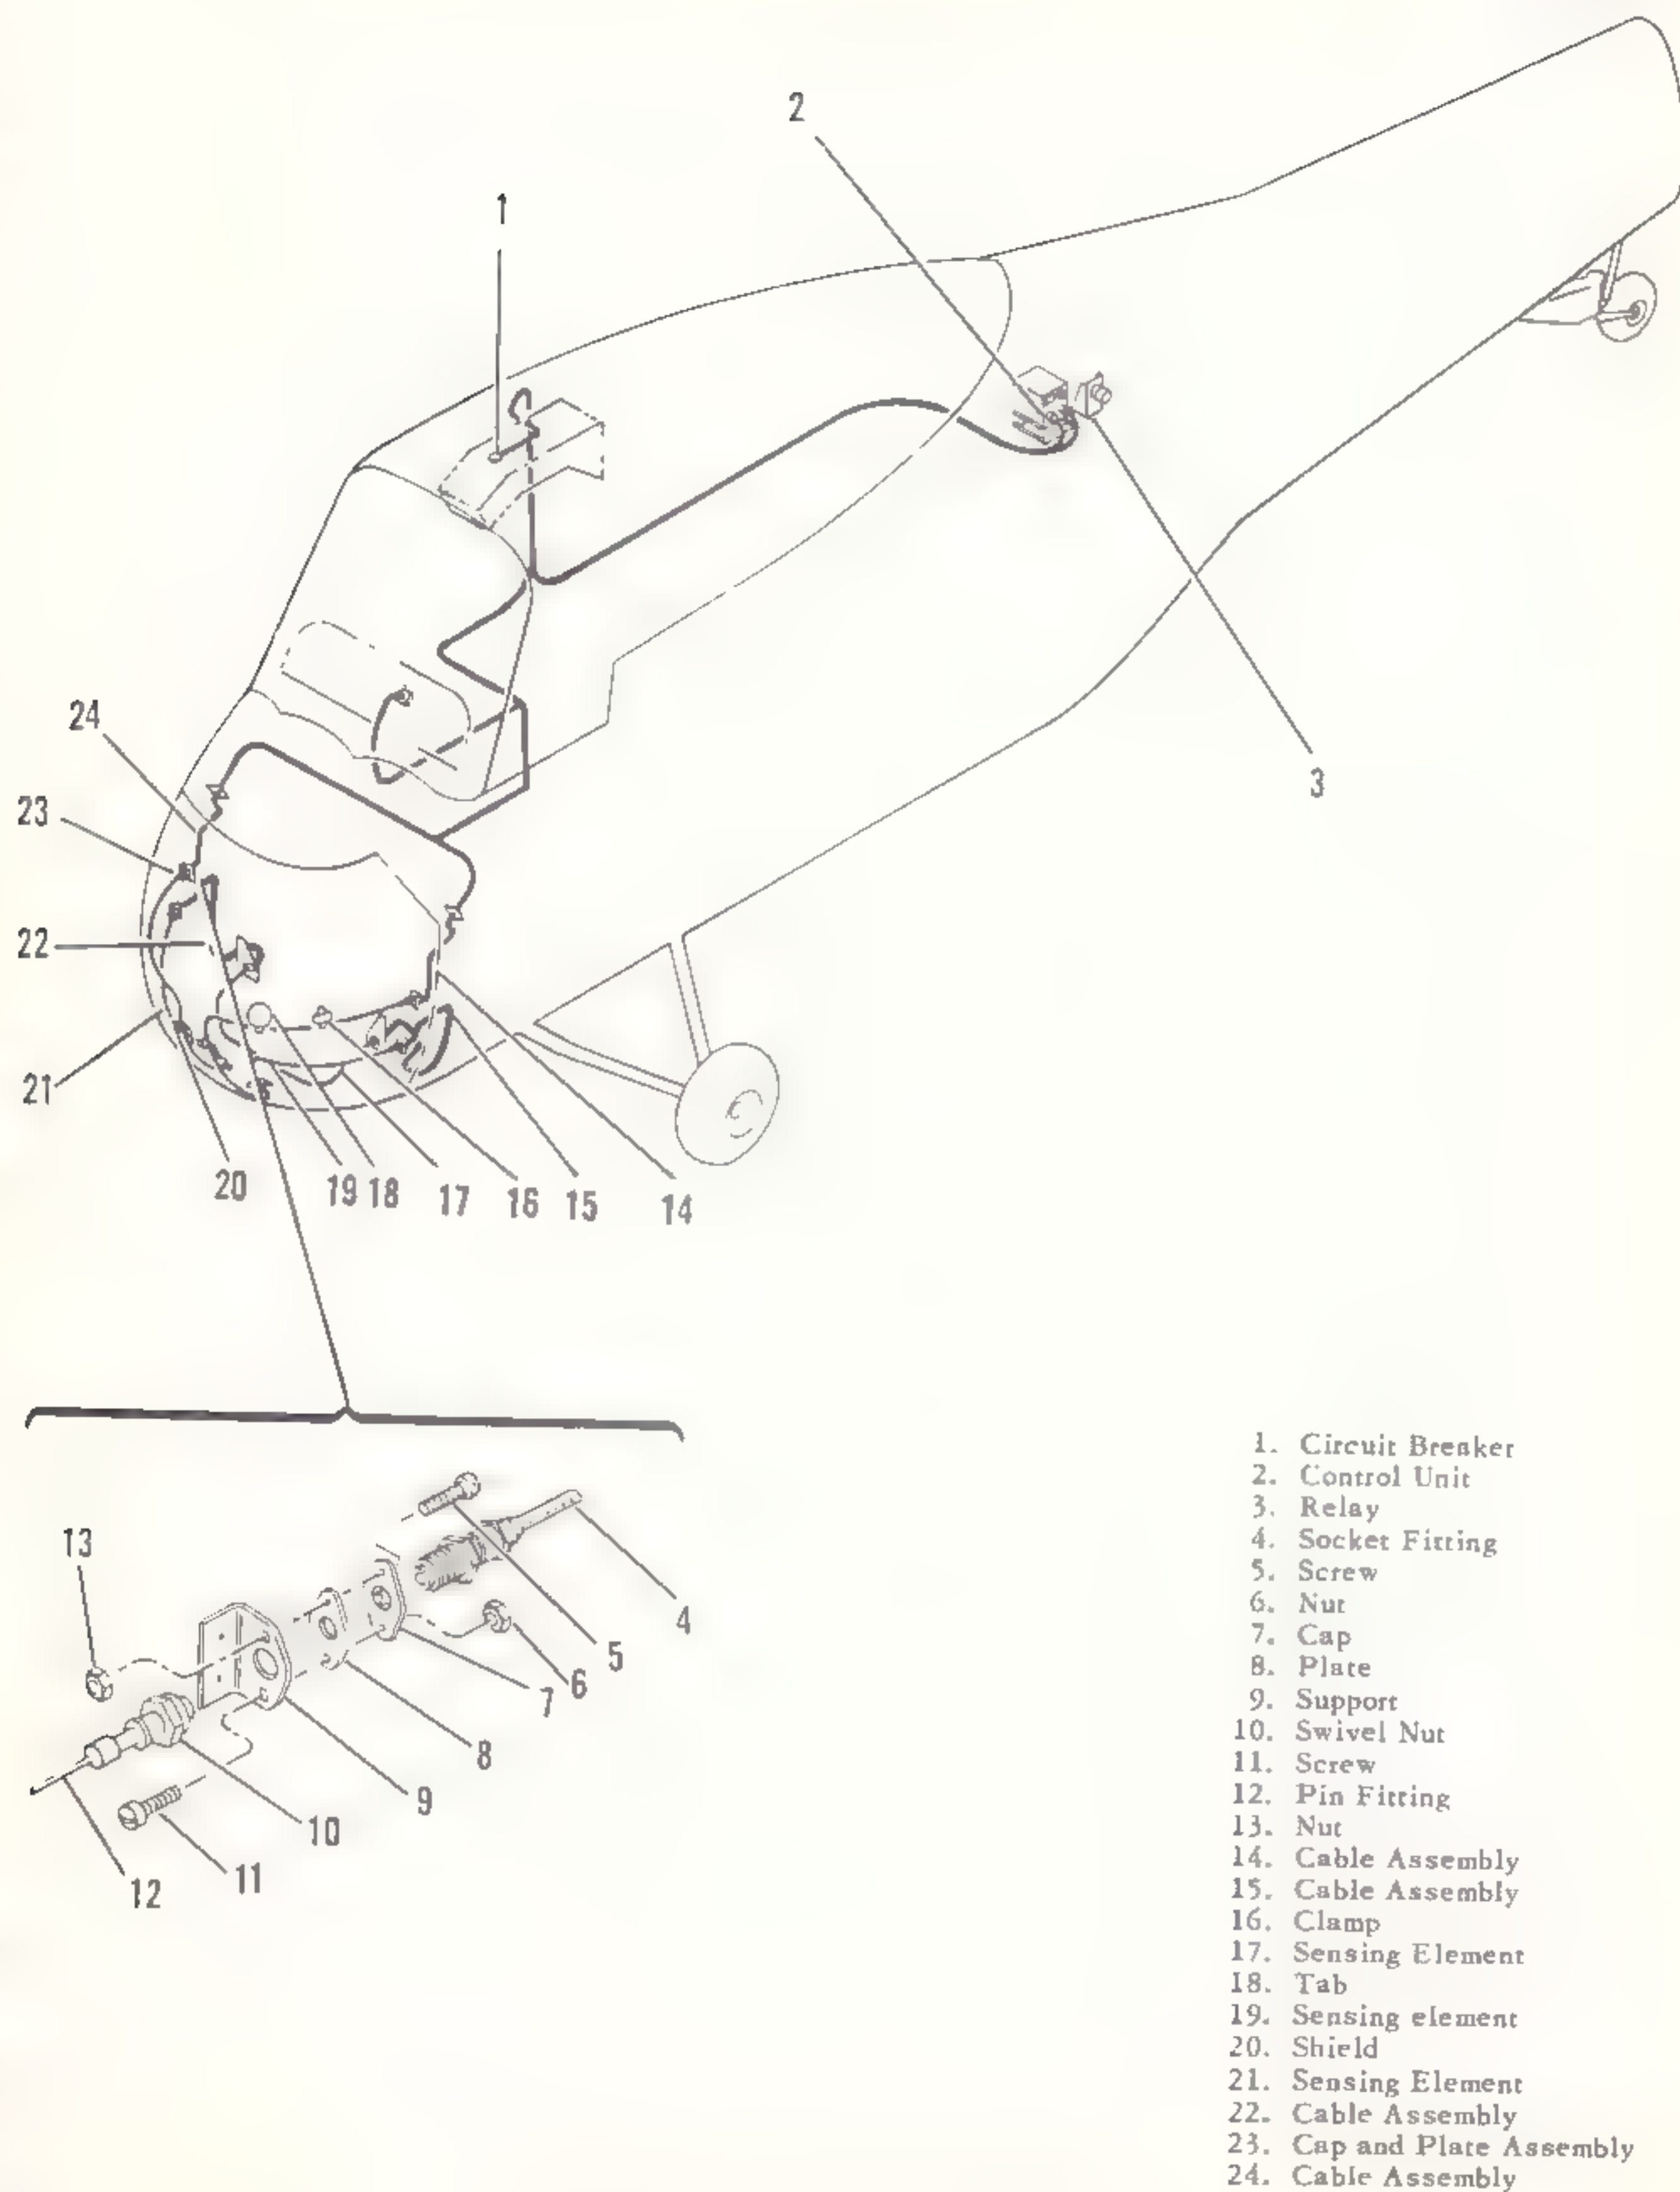

Figure 11-4. Fire detector system diagram
11-24. Description. A continuous-resetting-type fire detector system (figure 11-4) is installed in the helicopter to warn the pilot of fire or excessive heat in the engine compartment by illuminating a red warning light on the instrument panel. The fire detector system consists primarily of the following: Three sensing elements (17, 19, and 21), one mounted on the inner surface of each nose door and one just forward of the oil cooler; four cable assemblies (14, 15, 22, and 24), two connecting the three sensing elements in series and two routed from the sensing elements to the canted bulkhead; a control unit (2), a relay (3), and a mounting base located in the electronics compartment; and a warning light, marked FIRE DET-WARN, and a test switch, marked FIRE DET-TEST, both located on top of the main switch panel on the instrument panel. On helicopters serial No. prior to 56-4313, the relay and control unit are both located in the electronics compartment on the shelf directly above the inverters. On helicopters serial No. 56-4313 and subsequent, the relay and control unit are mounted on the lower shelf on the forward righthand bulkhead in the electronics compartment. Operation of the fire detector system depends on the electrical resistance between the two element wires in the sensing elements. This resistance is lowered by any rise in the temperature of the sensing element. The resistance of the sensing elements is continually monitored by the control unit which also controls the FIRE DET-WARN light. Any great decrease in resistance, indicating that an excessive temperature exists along some portion of one or more sensing elements, closes a contact within the control unit and illuminates the FIRE DET-WARN light. The control unit is adjustable so that warnings are given only when abnormal temperatures, 277°C (531°F) or above, exist
11-25. Sensing Elements. The sensing elements (17, 19, and 21, figure 11-4) are the components of the fire detector system that detect the presence of fire or excessive heat. A sensing element is secured with clamps and grommets to the inner surface of each nose door and to the large interconnecting tube between the oil cells just forward of the oil cooler. Each element is composed of an inconel tube containing two wires imbedded in a specially formulated ceramic core. One wire is a ground wire connected to the inconel tube. The electrical resistance between the two wires varies inversely with the temperature. Therefore, an increase in temperature along any portion of a sensing element will cause a corresponding drop in the electrical resistance of that element. This drop in resistance is the factor that illuminates the FIRE DET-WARN light on the instrument panel through the action of the control unit. Since the fire detector system is the resetting type, exposure to fire or excessive heat does not necessitate replacement of the sensing element. However, after exposure to fire or excessive heat, the sensing element must be checked in accordance with paragraph 11-29, steps *a* and *b*. The elements must be replaced if physical damage occurs beyond the limits specified in paragraph 11-29.
b. Remove socket fitting and swivel nut (4 and 10, figure 11-4) from support (9).
c. Remove screws (5 and 11) and nuts (6 and 13) securing cap (7) and plate (8) to support (9).
11-30. *Installation.* *a.* Position plate and cap (8 and 7, figure 11-4) to support (9) and install screws (5 and 11) and nuts (6 and 13).
b. Install socket fitting and swivel nut (4 and 10) on support (9).
11-31. **Control Unit.** The control unit (2, figure 11-4) is installed on a mounting base on the shelf in the electronics compartment. The control unit, which is basically a Wheatstone bridge, continually monitors the resistance of the three sensing elements. In the event of an excessive temperature rise along some portion of one or more of the sensing elements, the corresponding decrease in the resistance of the sensing elements causes the bridge in the control unit to become unbalanced. This, in turn, closes an electrical contact within the control unit and illuminates the FIRE DET-WARN light. The control unit is equipped with an adjustable potentiometer which is used to adjust the control unit so warnings are given only when abnormal temperatures exist and not as a result of normal engine temperature.